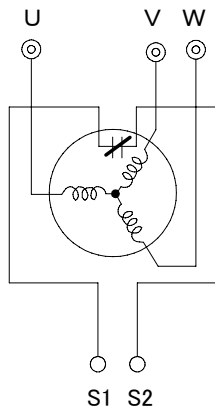

Fig.2-9 Standard Non-Seal Pump Motor Winding and Thermostat Connection Diagram (Example)
As the operation switch, be sure to use an electromagnetic switch. This is necessary not only for the overload protection which the electromagnetic switch gives, but also for the protection of the motor by a thermostat circuit of Fig.2-9 which is connected in series with the exciting coil of the electromagnetic switch. Moreover, install a safety circuit for the protection in the event of line-to-ground fault.
- (2) The maximum rated voltage and current of the thermostat are AC 220V and 1.5A. Under some service conditions, the thermostat operates frequently. Therefore, for the contact protection, the voltage and the current should be as low as shown in Table 2-3.
- An example of thermostat connection is shown in Fig.2-9.